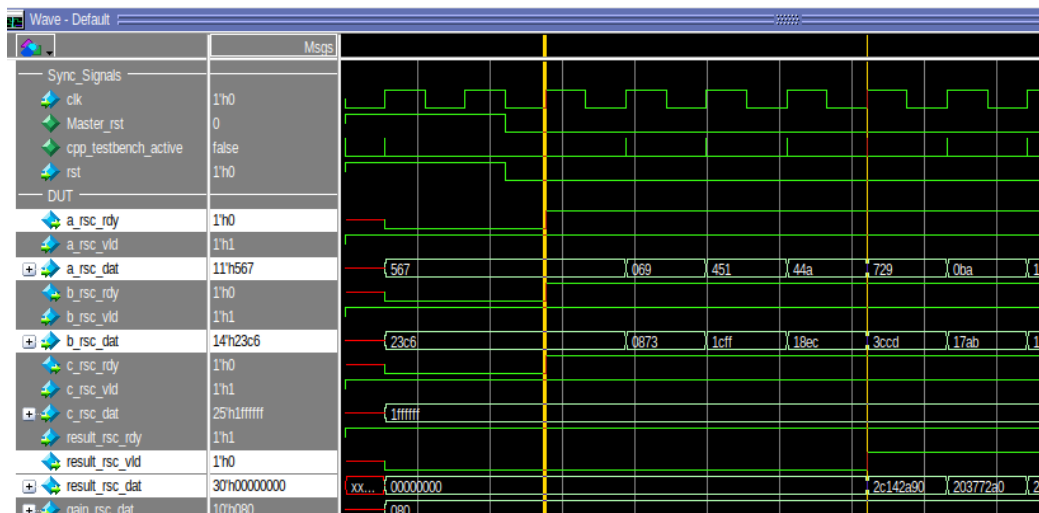

Figure 9. Time diagram of the simulation result.
43. Observe the 4-cycle latency from *a_rsc_rdy* to *result_rsc_vld*, and the single-cycle throughput (Fig. 9).